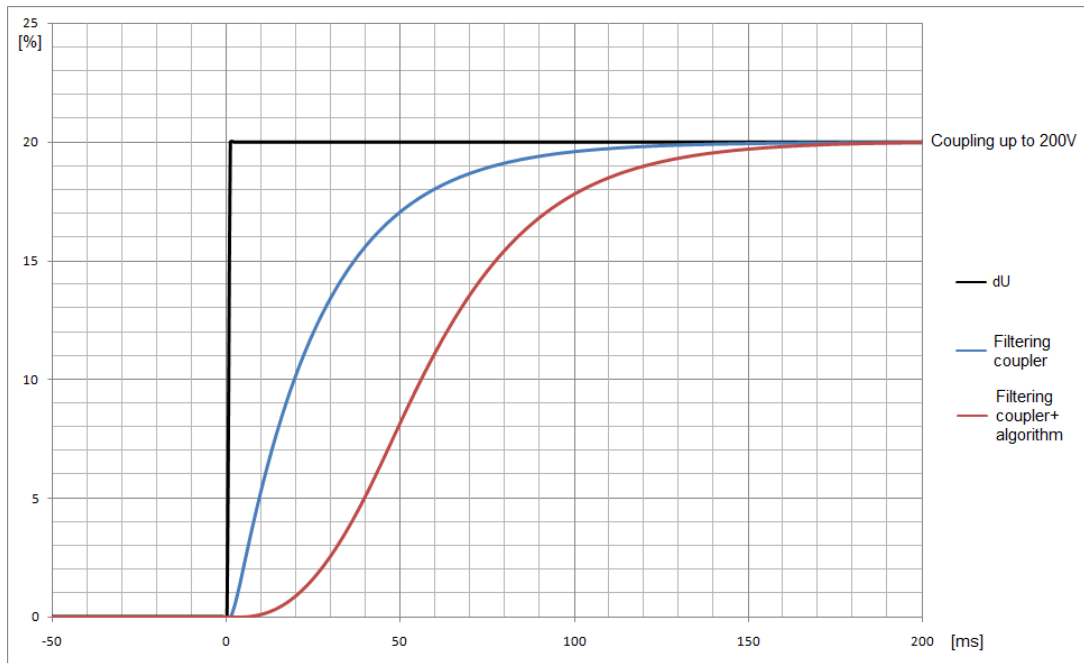

Figure 2-2 Filtering the analogue input with a coupler connected for 200V
*The operating and reset time are referring to the algorithm only. The time constant of the low-pass filter in the coupling unit shall also be considered according to Figure 2-2 and Figure 2-3.